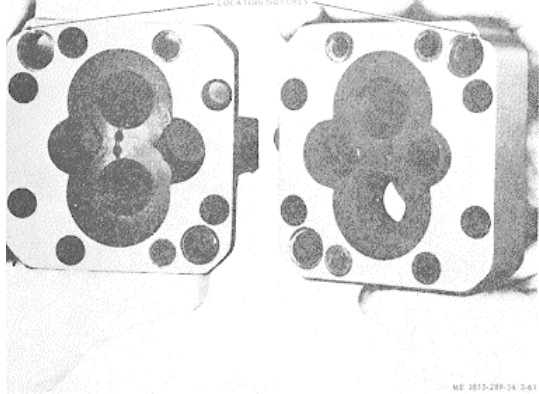

Figure 3-61. Locating notches.
(1) Lubricate and slide shafts and gears into cover. Make sure parts are clean.
(2) Position new gasket (8) and install housing to cover. Aline locating notches together (fig. 3-61).